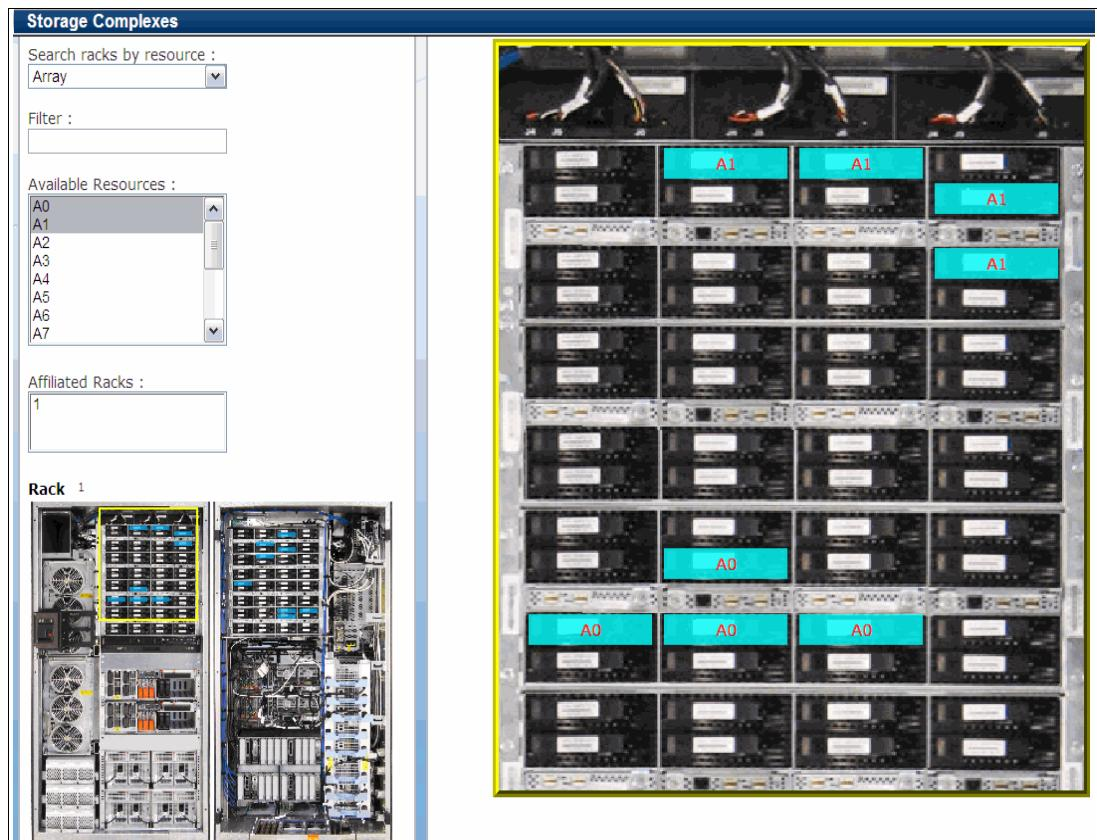

Figure 13-79 View arrays
5. In order to check where the physical disks of arrays are located, change the search criteria to **Array** and from the Available Resources section, click one or more array IDs that you want to explore. After you click the array ID, the location of each DDM is highlighted in the rack image. Each disk has an appropriate array ID label. Use your mouse to move the yellow box in the rack image on the left to the desired location across the DS8700 front and rear view to view the magnified view of this section, as shown in Figure 13-79.